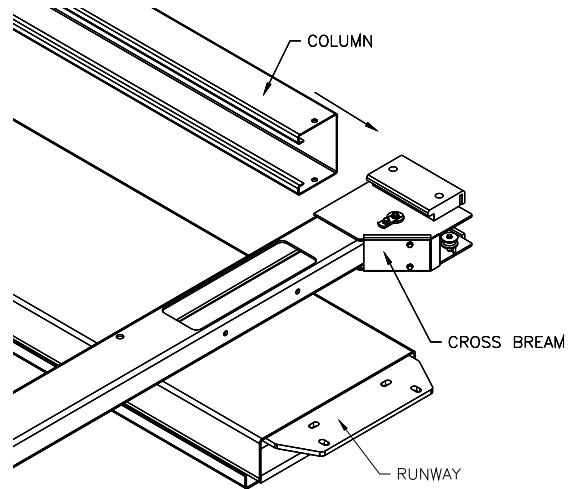

Fig 5 – Column/Cross Beam Assembly
- 6) With the runways spaced per **Fig 1**, lay the cross beams on the runway per **Fig 5** below. Place cardboard between the runway and cross beam. Slide the column over the ends of the slide blocks on the cross beam. Repeat for each column.